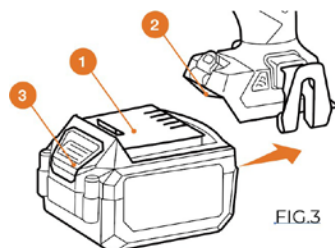

FIG.3
- 1-Insert the battery into the connector until it clicks into place (Fig. 3).